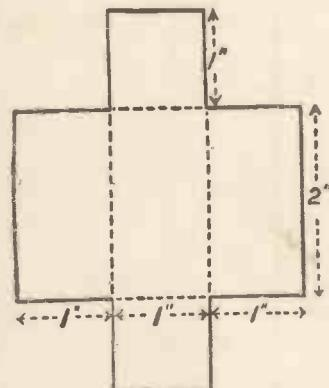

Fig. 1.—How to make the Mould.
THE process of duplicating existing lead models may be undertaken with ease by any amateur, provided he is willing to take a reasonable amount of care. Let us assume that the model to be duplicated is  $1\frac{1}{2}$  in. high by  $\frac{1}{2}$  in. broad; a model stationmaster, for instance. The first article to be constructed is the box stop. Cut out a piece of cardboard to the dimensions and shape shown at Fig. 1, score along the dotted lines, and bend up the flaps to form a lidless box, placing an elastic band round it to hold it together.
**Assembling the Model Boat.**—Now take sheet 1 and cut out the hull of the boat (Fig. 1). This when glued together will form a hull, triangular in shape, but having a semi-rounded bottom. The stern is formed by folding the corners diagonally as shown by a dotted line. Crease also along the line marked X. Fig. 10 indicates how the folding should be done. Next cut out the deck (Fig. 2, sheet 2), and then the cowled hood or turtle back (Fig. 3), gluing this over the deck, and tucking the tabs inside out of sight. On top of the turtle back glue the ventilators (Fig. 6), sticking the two parts of this together. At the rear of the turtle back glue the end of the hood (Fig. 7), and above it the windscreen (Fig. 8). Fig. 4 shows a strip which should be folded down its centre and glued over the bow to make the hull watertight. Fig. 5 is a pennant, and the front part should be curled round a long wire extending down the bow and having a hook formed at its lower end to embrace the elastic. Fig. 11 shows the sealing strip and pennant in place. The diagram at the foot of this page shows how to form from 18-gauge wire the clip which carries the rudder and the propeller. The propeller should be made  $1\frac{1}{4}$  in. in diameter, and it should be cut from the tin securing the top of a cigarette tin. The rudder should be cut from the same material. It need not necessarily be of the shape drawn. You may